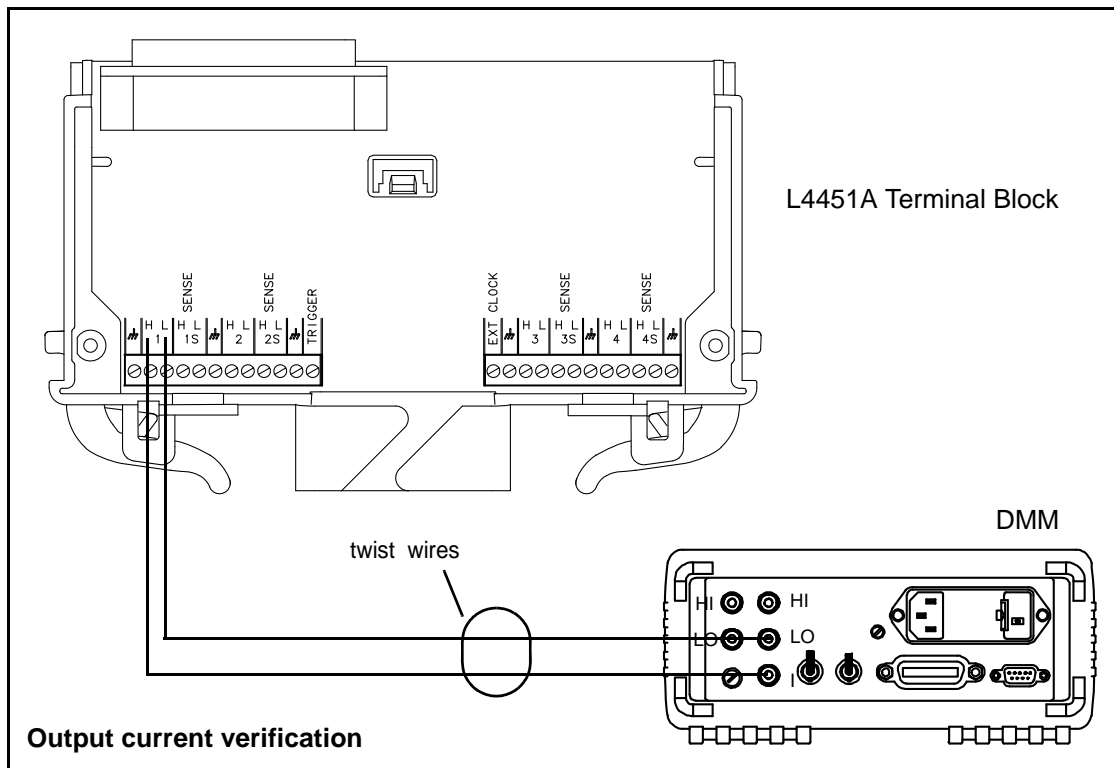

Figure A-1. L4451A Output Current Connections.
The test connections for verifying the L4451A DAC output current and voltage using an external DMM are shown in Figures A-1 and A-2.
- 3 Connect channel 1 of the L4451A as shown in Figure A-1. Configure the L4451A to output the currents listed in Table A-2. For each current level measured, subtract the current offset recorded in Step 2 as applicable. The results should be within the limits listed in Table A-2.
- 4 Connect channel 1 of the L4451A to the DMM as shown in Figure A-1. Set the DMM to measure DC current.
- 8 Separately connect L4451A channels 2, 3, and 4 to the DMM as shown in Figure A-1. Repeat Steps 5 through 7 for each channel until calibration points 1 through 13 have been measured and entered.